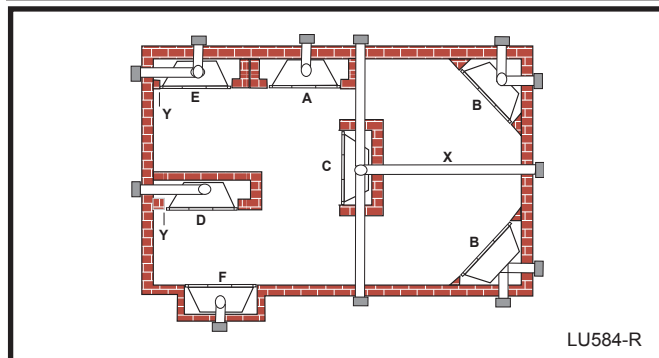

Fig. 3 Locate gas fireplace.
NOTE: (Fig. 3)
** Island (C) and Room Divider (D) installation is possible as long as the horizontal portion of the vent system (X) does not exceed 20' (610 cm). See details in Venting Section.
* When you install your fireplace in (D) Room divider or (E) Flat on wall corner positions (Y), a minimum of 6" (153 mm) clearance must be maintained from the perpendicular wall and the front side edge of the fireplace.
Refer to (Y) in Figure 3.